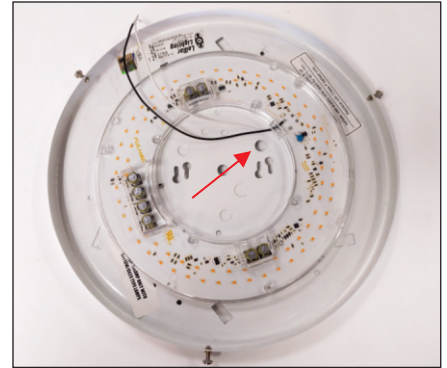

Figure 2
2. Center the DirectAC Engine (A) in the luminaire so that the line voltage cables are aligned with the flared hole found in the luminaire. See figure 2.